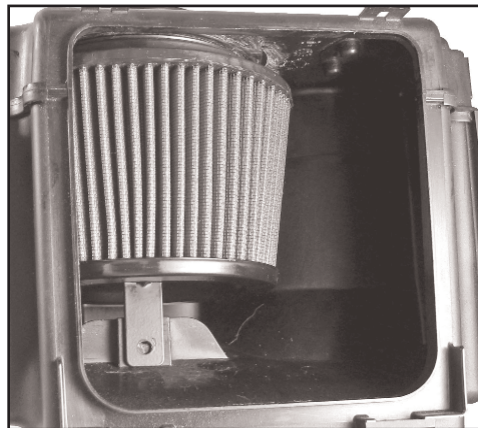

Fig. 2
4. Line the filter base with the intake opening. (Fig. 2)